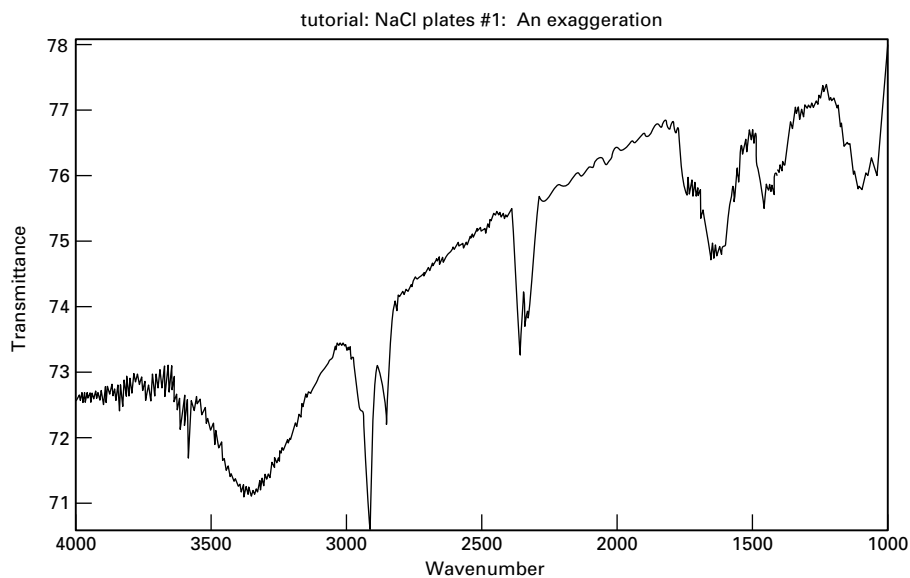
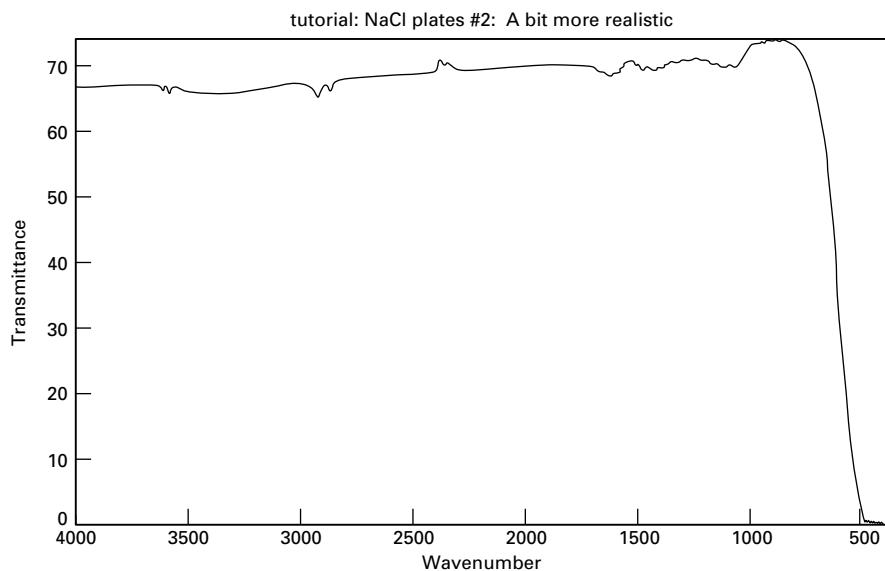

FIGURE 32.26 Salt plate spectrum transmittance trick.
FIGURE 32.27 Salt plate spectrum with some sanity restored.
4. **The FTIR computer programs automatically scale the spectrum.** So you don't have to set the zero and 100%. Unfortunately, the scaling is mindless, and you can be fooled if you're not careful. Figure 32.26 could possibly be an organic acid. See the broad hydrogen-bonded OH peak at about 3400 cm⁻¹? (The consequences of not marking the exact frequency with the computer program should be evident now.) But the C=O at 1750 cm⁻¹ isn't as strong as it should be and . . . Fooled ya! Look at the transmittance scale on the left-hand side. It only goes from 70% to 76%. This is a spectrum of some student-abused salt plates, and these huge peaks and bands are actually tiny wiggles (Fig. 32.27). The computer program mindlessly took the maximum and minimum wiggling in the spectrum and decided to give it to you at full-screen height.